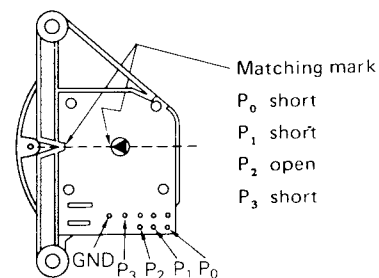

Fig. 4-6
- 1) Align both matching marks on the mode switch, as shown in Fig. 4-6.
- 2) The continuity of each of the pins should be checked to ground with an ohmmeter by connecting its red lead to GND, and black lead to each specific pin in sequence. Rotate the gear so the continuity conforms with the that given in Fig. 4-6.